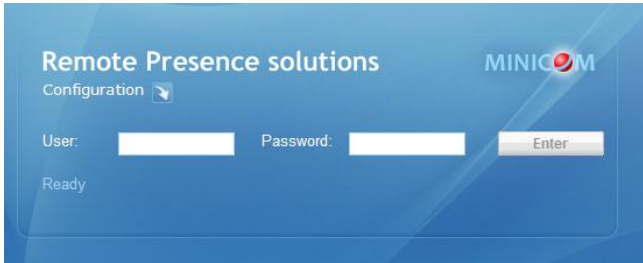

Figure 10 Login page
2. Type the IP Control system IP address - `https://IP address/` - and press **Enter**. The login page appears, see Figure 10.